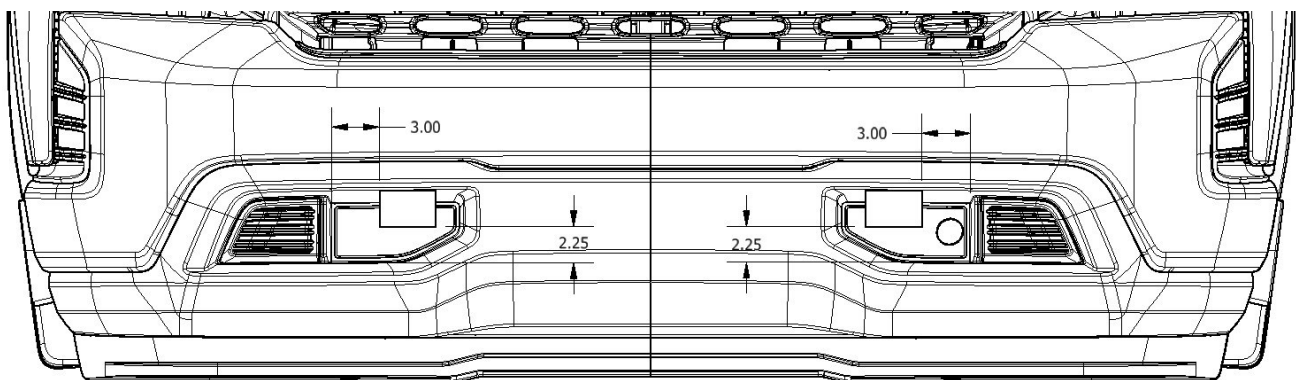

Figure: 1
- A. Cut 2 square holes in the lower plastic fascia as shown below in figure 1. The cutouts are 3.5" wide by 2.25" tall. These cutouts will give 0.25" clearance around the push bumper brackets. This can be done with a body saw or a rotary cutting tool.
- B. The slots are 3.0" out from the vertical edge of the recess and 2.25" up from the horizontal edge of the recess in the plastic fascia as shown in figure 1.